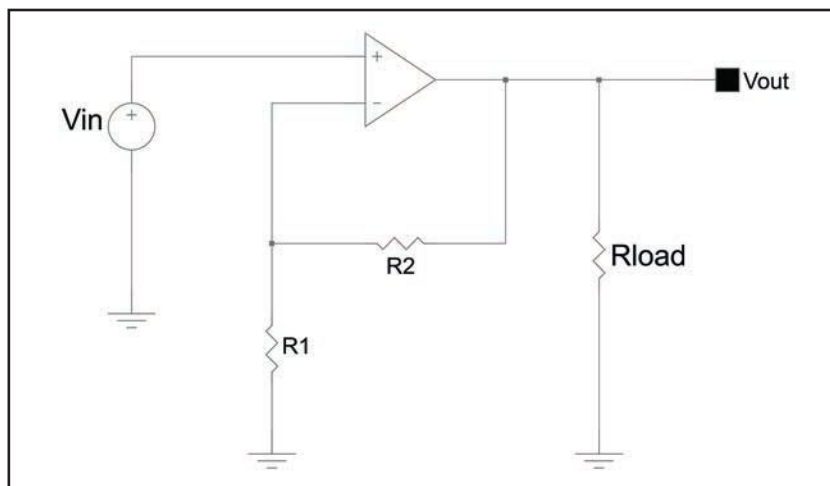

Figure 5: Voltage feedback gives rise to a voltage amplifier or a voltage-controlled voltage source (VCVS).
4. Series (Voltage) Applied, Shunt (Voltage) Derived Negative Feedback—The feedback transfer function shown in **Figure 5** is a voltage ratio resulting in a voltage feedback amplifier or, alternatively, a voltage amplifier.